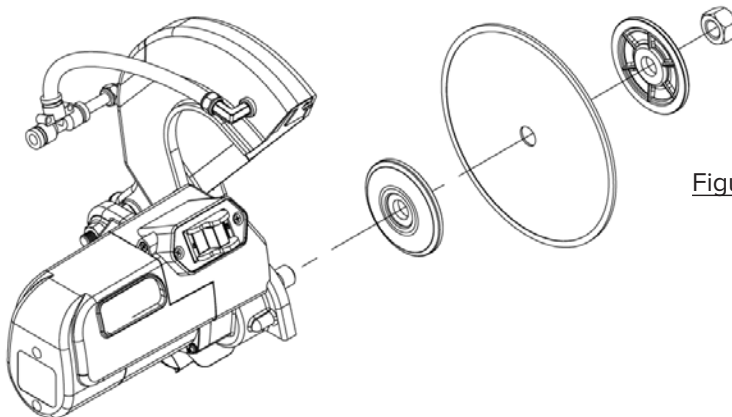

Figure 1
2. Remove the blade shaft nut and outer flange. (see figure 1) If a blade has been mounted, hold the blade with one hand and use the other hand to loosen the nut with the universal wrench. Remove existing blade.